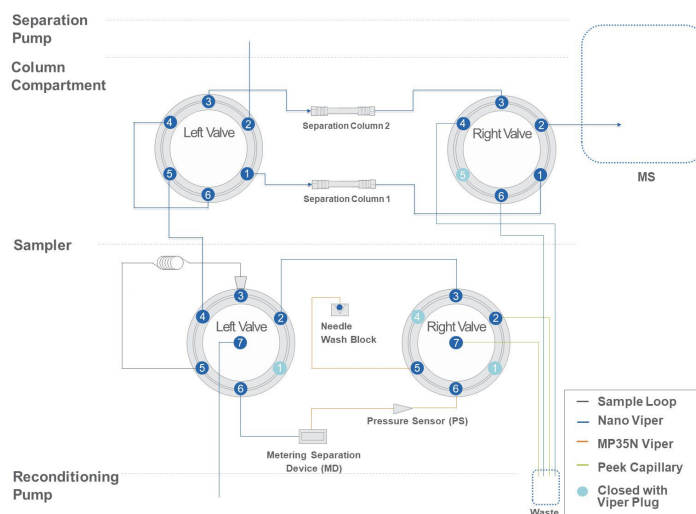

Figure 77: Fluidic schematics for the single spray microflow fluidic configuration with the right switching valve connected to the detector
- v. The script guides the user through the workflow configuration changes. Schematics showing the respective fluidic configuration options are given in Figure 77 and Figure 84below.
possible connection to the (MS) detector, resulting in minimum possible post column dispersion. Similarly, if the MS is located on the right-hand side of the column oven, the option (switching valve to detector => right) should be selected (see Figure 77).